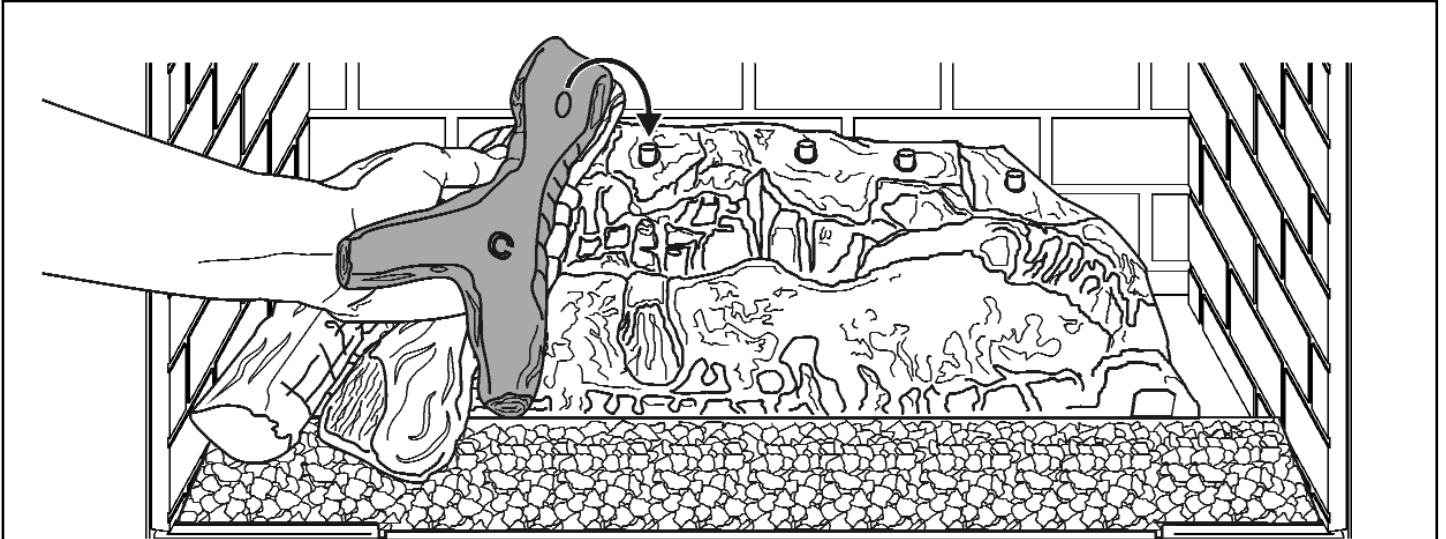

Figure 6. Fitting log 'C'
6. Remove log 'C' from its protective packaging and position it as shown in figure 6. Locate the hole in the base of log 'C' onto the peg on top of the rear base.